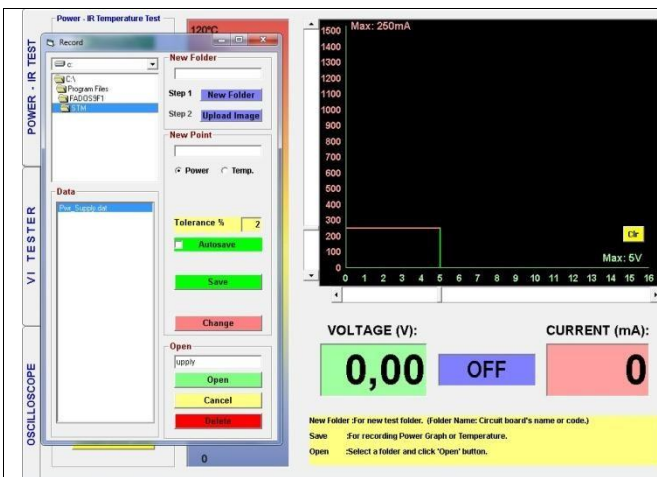

Figure 23: Opening the Recorded Data (Step 1)
**Opening the Recorded Data :** Click on the "Recording" button to open the "Record Window". Find the file created with a new name. Select the "Pwr\_Dat." data from "Data". Open the recorded data by clicking on the "Open Button" (Figure 23 - 24).